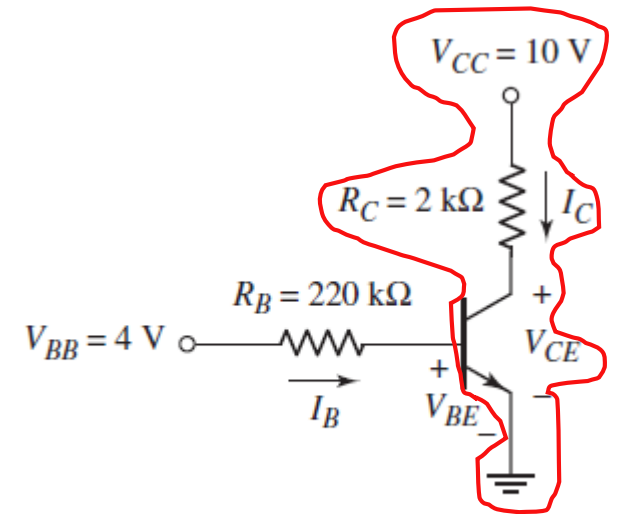

Figure 5.20 (a)
- All transistor currents are **zero**, (neglecting leakage currents), and for the circuit shown in Figure 5.20(a):